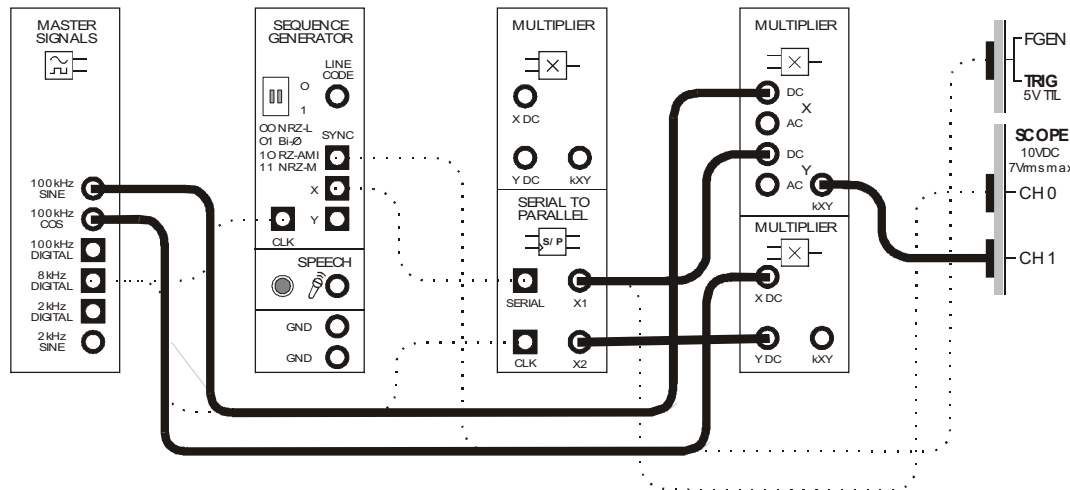

Figure 5
13. Modify the set-up as shown in Figure 5 below.